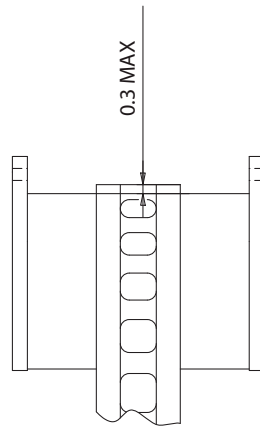
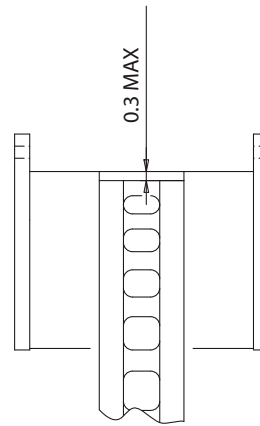

Fig. 3
Fig. 4
d. The disc and pads protrusion must be 0,3 mm MAX (see Fig. 3 and Fig. 4).